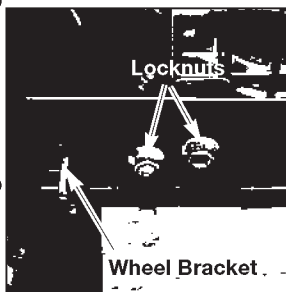

Figure 4
- Using two screws (8) and two lock nuts (7) install the wheel bracket (3) on the bottom left side of the engine support as shown in Figure 4. Do not tighten.